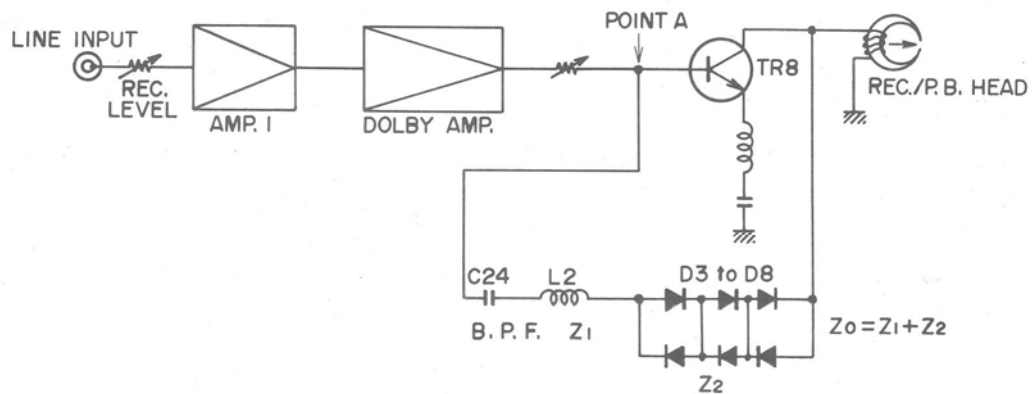

Fig. 52 A.D.R. Block Diagram (at Rec. mode)
1) Refer to Fig. 52
3) Refer to Fig. 52
Therefore, in making a high level recording, the recording equalization will relatively increase and in the vicinity of f_o frequency, the recording equalizer will reach it's peak and exceed the saturation level of the magnetic tape. However, at this time, TR8 output passes the A.D.R. element which is comprised of D3 through D8, and the f_o vicinity frequency only is allowed to pass the B.P.F. and is supplied to point (A) in Fig. 52.